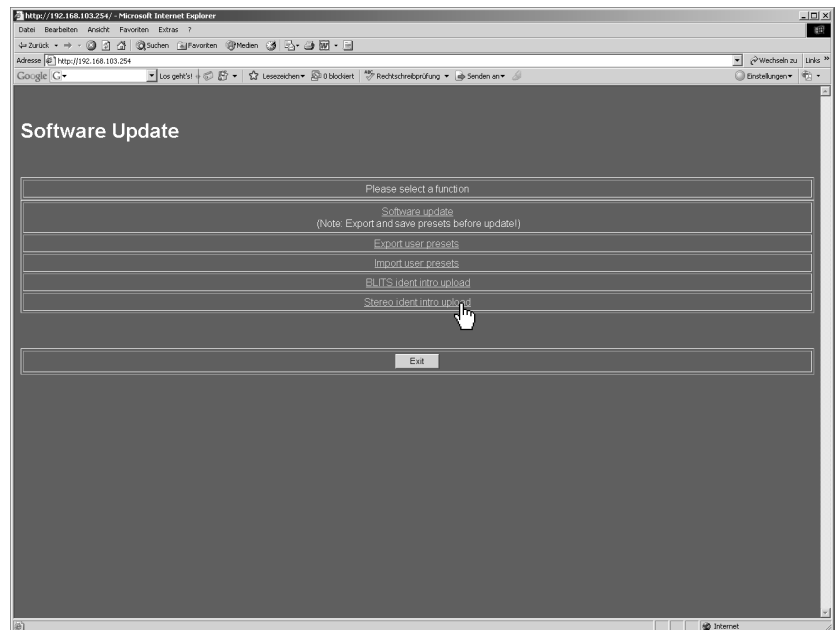
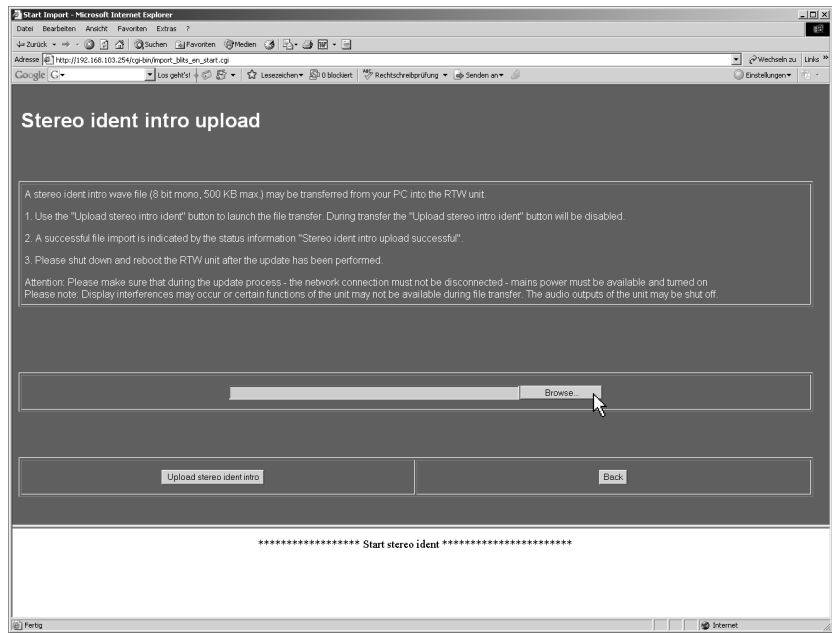
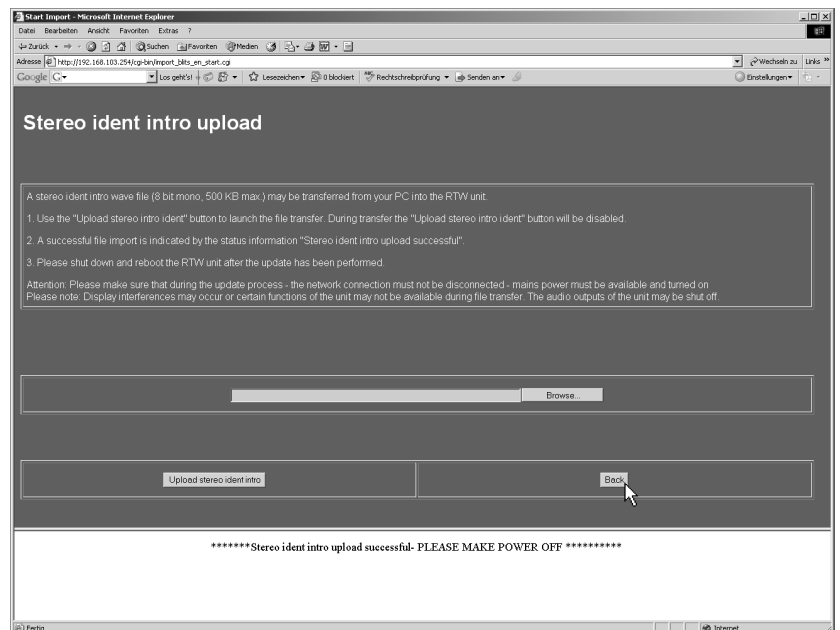

Fig. 8-31: Software Update Program menu in web browser
Fig. 8-32: Display of the Stereo ident intro upload menu page (Browse ...)
Fig. 8-35: End of the Stereo ident intro upload
2. The SurroundMonitor units should respond with a screen like the one shown in Fig. 8-31. Choose **Stereo ident intro upload**. **Please note the instructions on the Stereo ident intro upload menu page** (see Fig. 8-32).
3. Please click the **Browse ...** button (see Fig. 8-32) to browse for the ident intro wave file.
6. When "Stereo ident intro upload successful – PLEASE MAKE POWER OFF" is displayed the ident intro upload process is finished (see Fig. 8-35). For activating the ident intro wave file the SurroundMonitor unit has to be restarted.
7. Click the **Back** button (see Fig. 8-35) to get back to the home page (see Fig. 8-31). There please click the **Exit** button to leave the software update program.